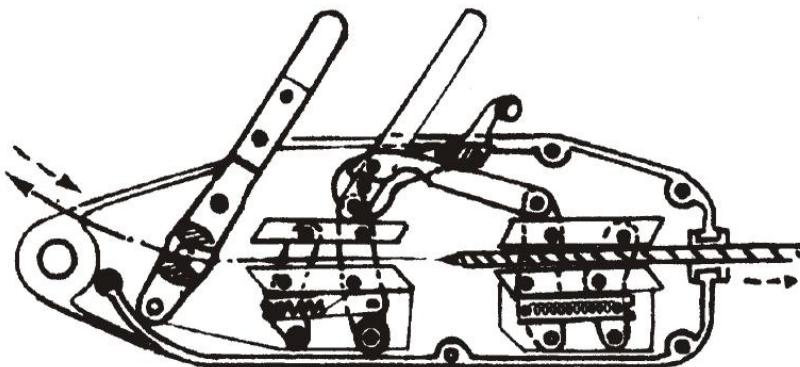

Fig1. Rope reeving and Rope receiving:
1. Reeve: (Fig.1) With the rope head downward and pressing the hoister, push the relaxed handle. When hearing the sound click, pliers mouth has been opened. Then you can reeve the wire rope from the back hole to the hoister. After the rope is out, the rope can be pulled to the length that you need and then push the relaxed handle back to clamp the rope tightly. When the forward handle or the backward handle pulled, the wire rope will automatically go into or come out of the hoister. Thus, the machine is in the normal state and it is ready to be used.
(4.)Draw the rope out(Fig.1): Having finished the work, the pliers mouth will be opened as soon as the relaxing handle is pushed and then the wire rope can be drawn out of the end of the hoister. Clean the dirt on the rope, wind it into the steel cross in good order to be ready to use next time.